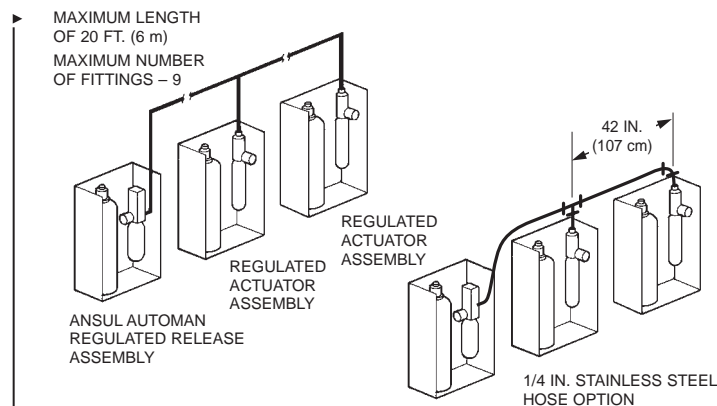

FIGURE 16
2. The actuation gas line is installed from the regulated release mechanism to each regulated actuator connected within the system. When using pipe, the total length of the actuation gas line from the regulated release assembly to the regulated actuator assembly(ies) **must not exceed** 20 ft. (6 m) when using an LT-20-R or an LT-30-R cartridge. See Figure 16.